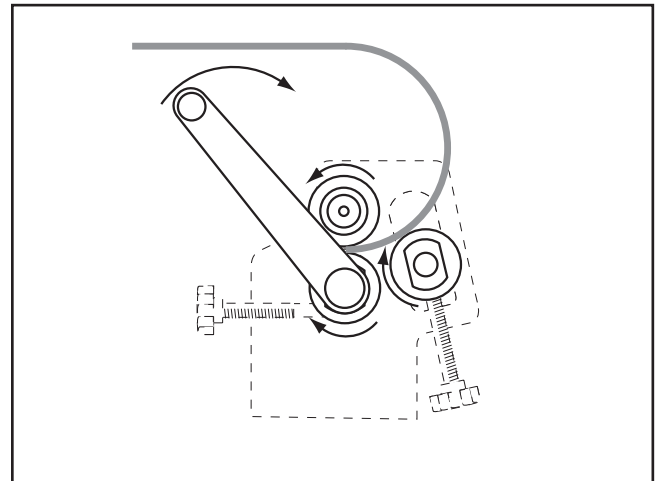

Figure 24. Processing the workpiece.
4. Turn the crank to process the material through the slip roll. Continue turning until the workpiece is completely through the top and bottom rollers (**Figure 24**).